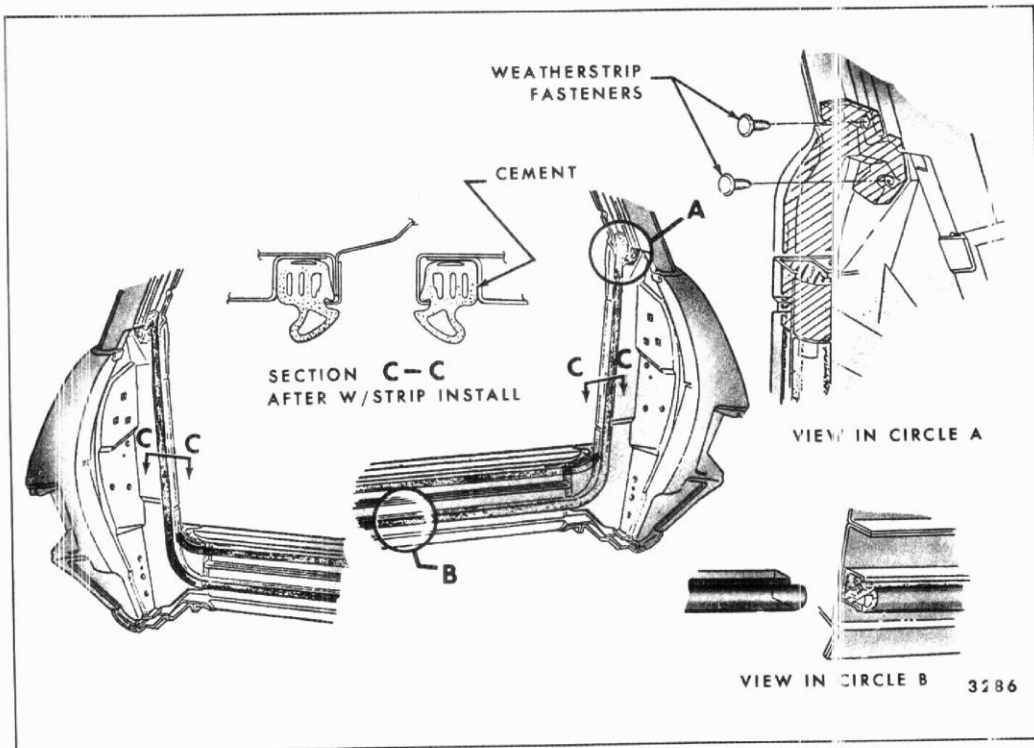

Fig. 9-62-Tail Gate Weatherstrip Installation
1. Open tail gate and remove fasteners and/or screws securing weatherstrip to right and left body pillars (at belt) (See Fig. 9-62).